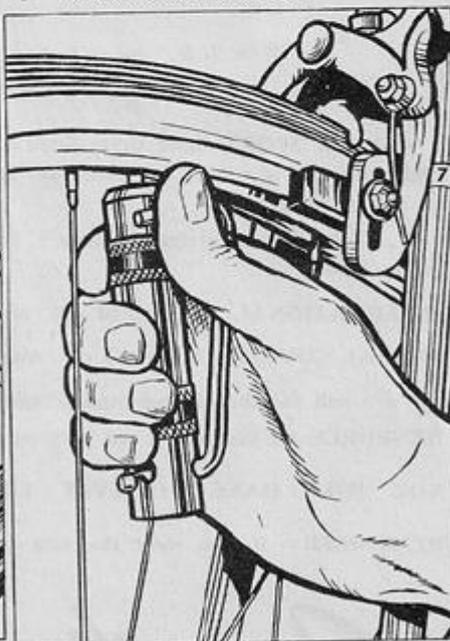

FIG. 2. PUMP AFTER FIRING.
4. With a quick movement turn the extended lever handle, which will be found in the shallow slots, 180 degrees until touching the body as shown in Fig. 2. This movement will fire the "Sparklet" cylinder and draw the gas into the cycle tube.